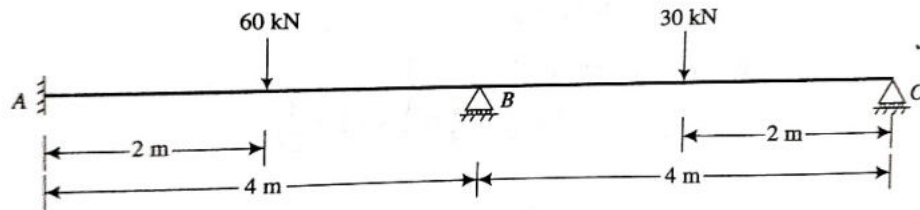

Figure 8.
10. Analyze the continuous beam shown in figure 8, by using flexibility matrix method. If the downward settlement of supports B and C are 12 mm and 6 mm respectively. Given flexural rigidity $EI = 20 \times 10^{12} \text{ N-mm}^2$. [14M]